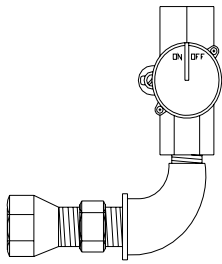

FIG. 2
With knob at the PILOT position, push knob or rod handle in slightly and rotate to the OFF position (FIG. 2). Wait five (5) minutes, then turn knob or rod handle to the PILOT position (FIG. 3). Push the knob or rod handle in (this starts the gas flow) and at the same time place a lit match at the pilot burner. Once the pilot lights, continue to depress the knob or rod handle for 1 minute. After 1 minute, slowly release knob or handle and the pilot should remain lit. If pilot does not remain lit, rotate knob or handle to OFF position (FIG. 2). Wait five minutes and repeat above steps.
To turn the pilot off, push in slightly and rotate knob or handle clockwise to the OFF position (FIG. 2).